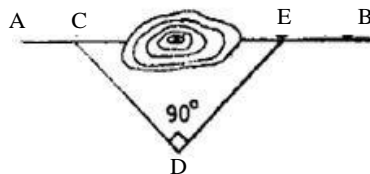

Fig. 2.18
2) Select a point C on the chain the AB (fig 2.18) on one side of the obstacle and setout CD to clear the obstacle. At D erect a perpendicular DE to clear the obstacle, cutting the chain line at E. Measure CD and DE then $CE = \sqrt{CD^2 + DE^2}$